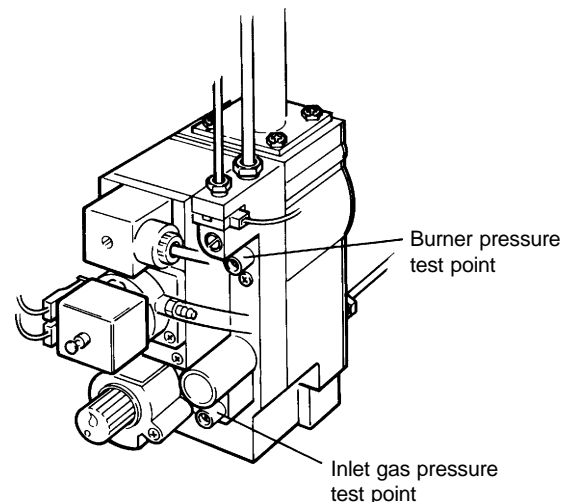

Fig. 17
2. Loosen the gas inlet pressure test point screw on the gas valve (see Fig. 17). Ensure the gas supply is on and open the boiler service cock to purge in accordance with BS 6891.
5.5 CHECK THE BURNER PRESSURES - Fig. 17